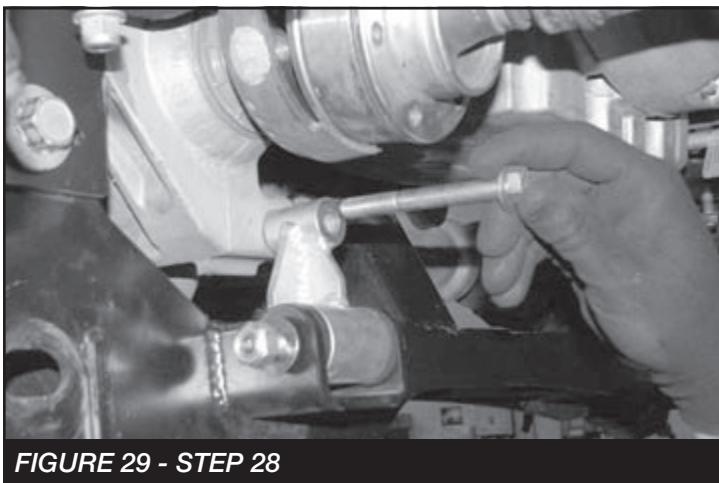

**FIGURE 27 - STEP 27**
**NOTE** – DEPENDING ON THE BUILD TIME OF THE VEHICLE THE HOUSING MAY HAVE A MACHINED SURFACE AND A THREADED HOLE ON THE SECTION OF THE HOUSING YOU ARE WORKING WITH. THE (FT30422) REAR DIFF MOUNT WILL WORK WITH EITHER VERSION. **SEE FIGURE 27**